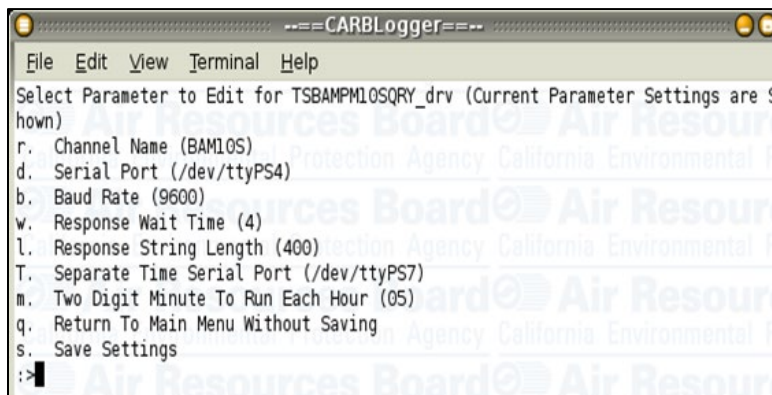

Figure 8. CARBLogger driver edit screen
- 9) The first four hours of data shall be discarded and the next consecutive 48 hours used for analysis. This sometimes improves the data set because of the tape tracking for the first few hours, if not perfectly centered when installed. Copy 48 hours of concentration data into the spreadsheet shown in FIGURE 8. For a BAM-1020 PM10 sampler, use 'ACTUAL' concentrations.
- 12) Make a record of the test results and any BKGD value changes, and keep it with the other records for the BAM-1020 sampler. The Zero Background Microsoft Excel Spreadsheet shown in FIGURE 8 can serve as a good test record.